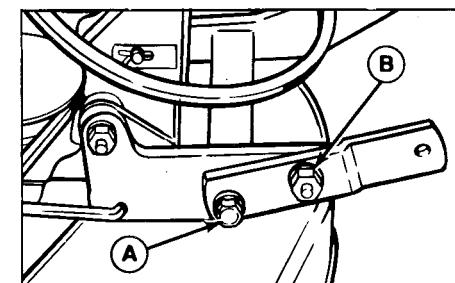

Figure 40. Mower Hitch
6. Loosen the capscrew (A, figure 40) and flange nut (B) in the right mower hitch.
8. Retighten the capscrew and flange nut (B, figure 40). Torque capscrew (A) to 50 ft. lbs. Torque nut (B) to 65 ft. lbs.